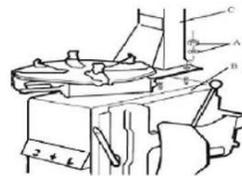

Fig 3
3. Unscrew nut A from machine body B as shown in Figure 3.